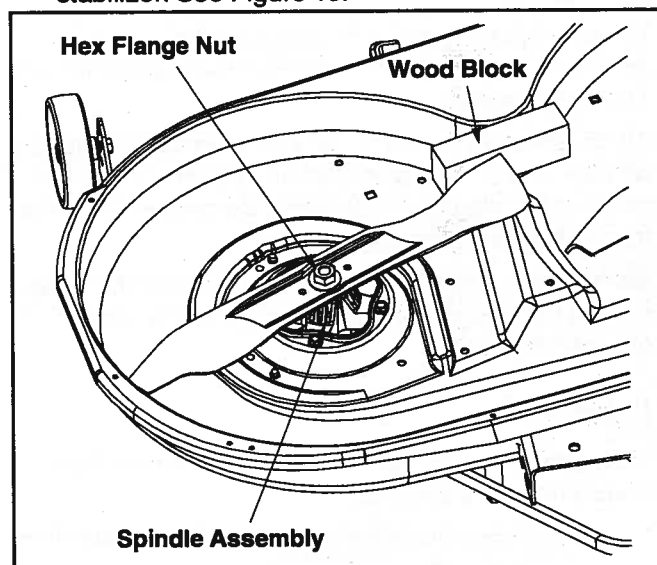

Figure 15
- Place a block of wood between the center deck housing baffle and the cutting blade to act as a stabilizer. See Figure 15.
- Use a 15/16" wrench to remove the hex flange nut that secures the blade to the spindle assembly. See Figure 15.